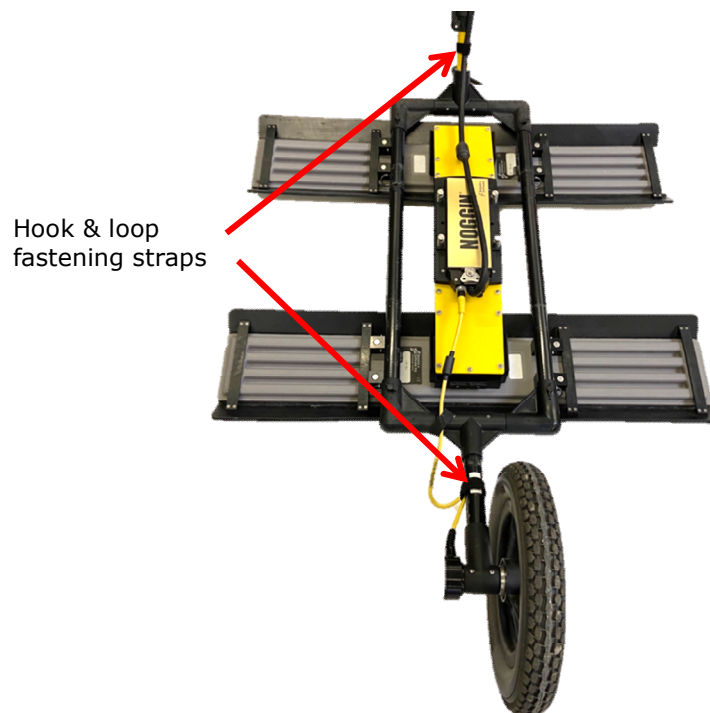

Figure 2-40: Connecting main cable and odometer cable. Secure to frame with the hook & loop fastening straps provided.
- a) Route the Noggin-to-DVL cable on top of the Noggin sensor electronics towards the front. Make sure that the cable does not hover over or contact the antennas as this creates noise in the GPR data (Figure 2-40).